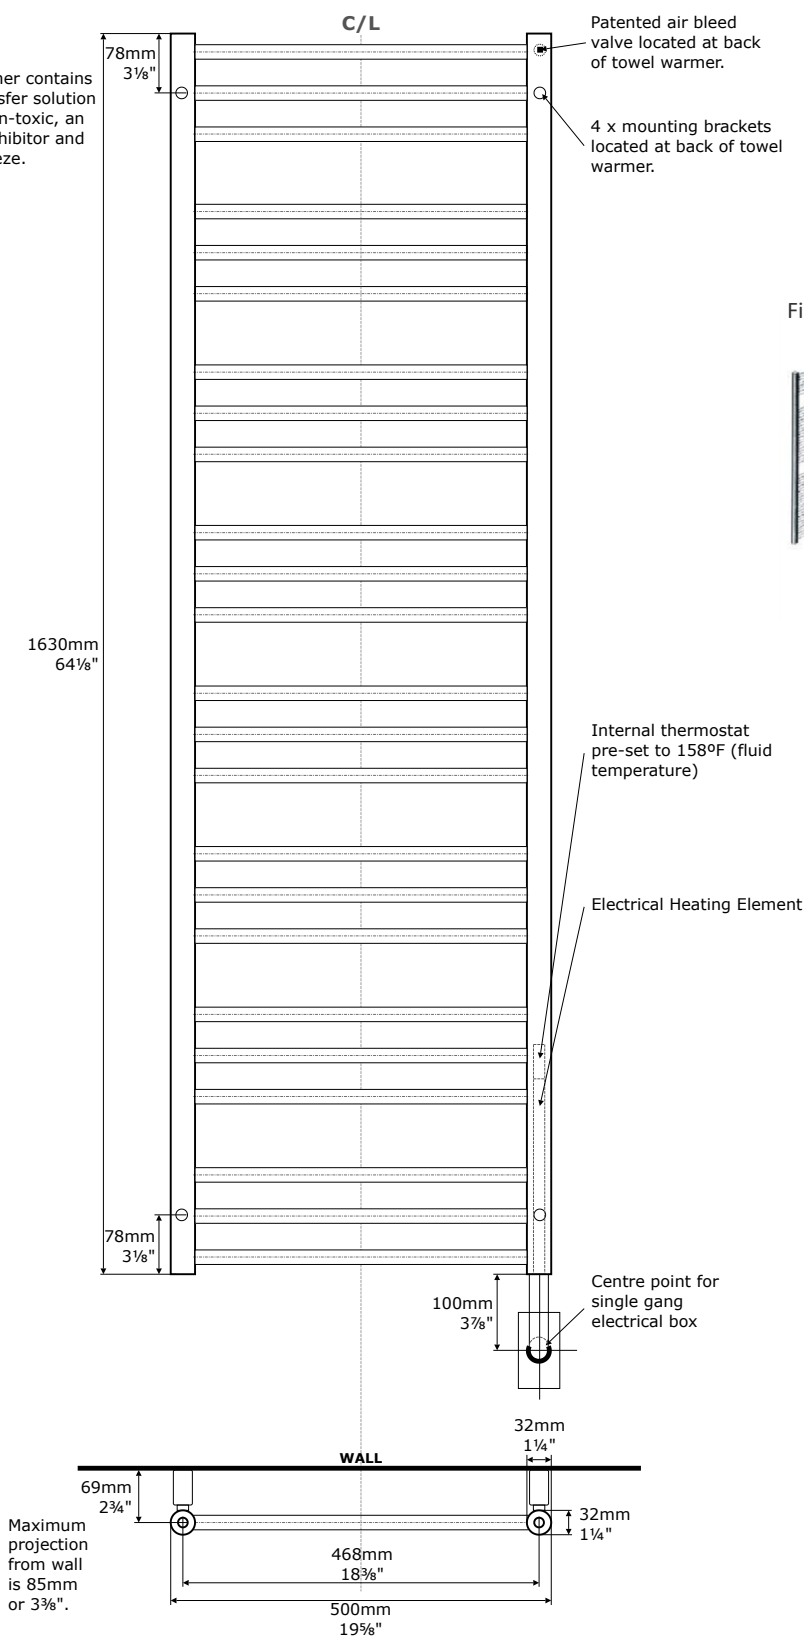

Figure 3
Rough-in Requirements (see figure 3)
2. Complete all electrical connections as shown in figure 3.